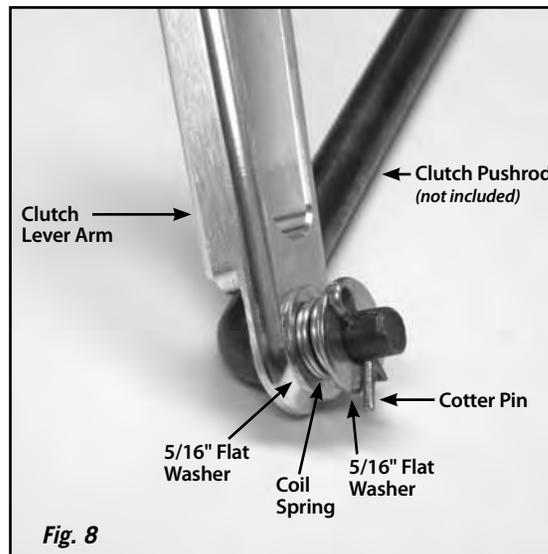
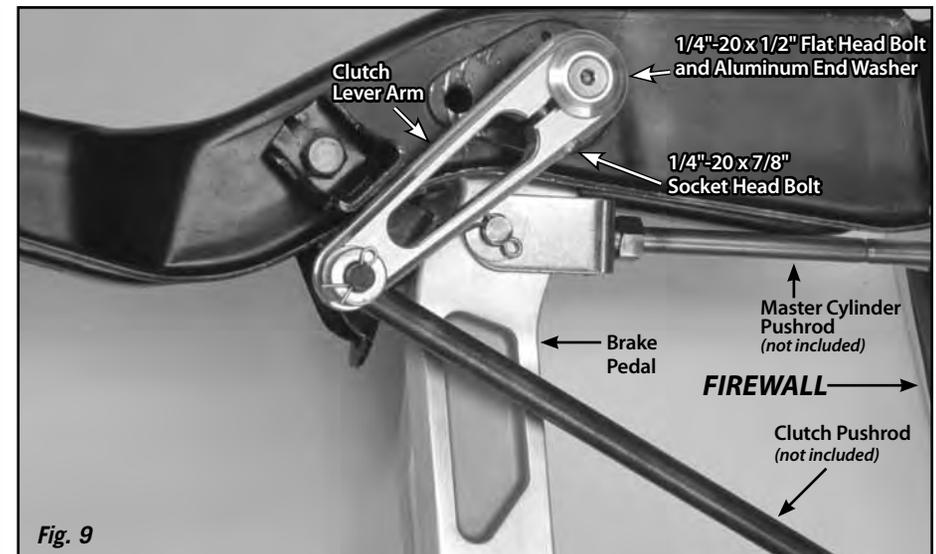

Fig. 8
Fig. 9
**Step 7:** Connect the clutch lever arm to the original clutch pushrod (not included) using a 5/16" flat washer, the coil spring, another 5/16" flat washer, and small cotter pin as shown in **Fig. 8**. Then install the clutch lever arm onto the right hand end of the splined shaft. Install the 1/4"-20 x 1/2" flat head bolt and aluminum end washer onto the right hand end of the splined shaft. Tighten the 1/4"-20 x 7/8" socket head bolt in the clutch lever arm to clamp it into place. **Fig. 9**